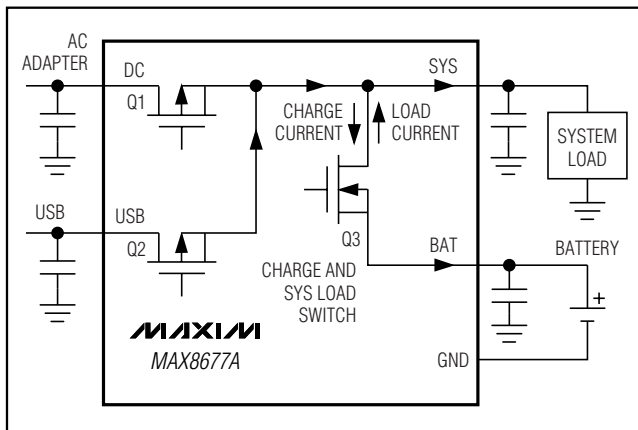

Figure 4. Smart Power Selector Block Diagram
The MAX8677A Smart Power Selector seamlessly distributes power between the external inputs, the battery, and the system load (Figure 4). The basic functions performed are:
An internal 40mΩ MOSFET connects SYS to BAT (Q3, Figure 4) when no voltage source is available at DC or USB. When an external source is detected at DC or USB, this switch is opened and SYS is powered from the valid input source through the input limiter.
The input voltage limiter is essentially an LDO regulator designed to run in dropout. While in dropout, the regulator dissipates a small I^2R loss through the 0.2Ω MOSFET (Q1, Figure 4) between DC and SYS. With an AC adapter or USB source connected, the input limiter distributes power from the external power source to the system load and battery charger. In addition to the input limiter's primary function of passing power to the system and charger loads at SYS, it performs several additional functions to optimize use of available power:
- Input Voltage Limiting.** If an input voltage is above the overvoltage threshold (6.9V typ), the MAX8677A enters overvoltage lockout (OVLO). OVLO protects the MAX8677A and downstream circuitry from high-voltage stress up to 14V at DC and 8V at USB. In OVLO, VL remains on, the input switch that sees overvoltage (Q1, Q3, Figure 4) opens, and the appropriate power-monitor output (\overline{DOK} , \overline{UOK}) is high impedance, and \overline{CHG} is high impedance.
If both DC and USB see overvoltage, both input switches (Q1 and Q2, Figure 4) open and the charger turns off. The BAT-SYS switch (Q3, Figure 4) closes, allowing the battery to power SYS.
An input is also invalid if it is less than BAT, or less than the DC undervoltage threshold of 3.5V (falling). With an invalid input voltage, SYS connects to BAT through a $40m\Omega$ switch (Q3, Figure 4).
The total current through the switch (Q1 or Q2 in Figure 4) is the sum of the load current at SYS and the battery charging current. The limiter clamps at 5.3V, so input voltages greater than 5.3V can increase power dissipation in the limiter. The limiter power loss is $(V_{DC} - 5.3) \times I$, but not less than $I^2 \times 0.2\Omega$. Also note that the MAX8677A turns off any input that exceeds 6.9V (nominal).